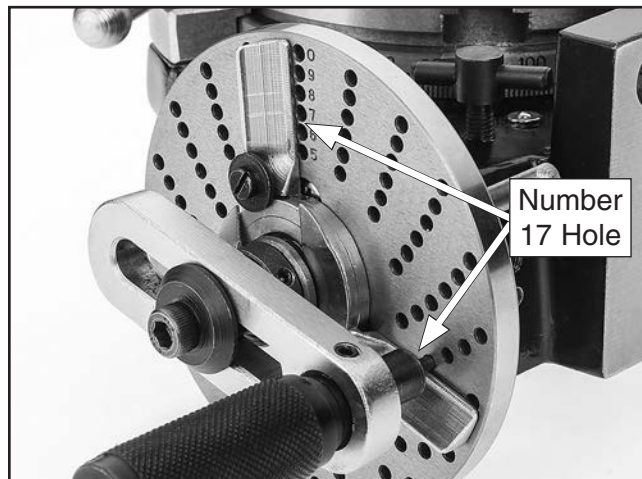

Figure 28. Pin set in last hole.
11. After completing five full rotations, continue cranking past five holes on 17-hole circle to rotate exactly $\frac{5}{17}$ of a rotation. Set indexing pin in 5th (last) hole of sector (see **Figure 28**).